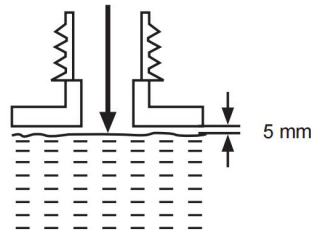

Fig. 17
- 3) Do not overfill and leave approx. 5 mm of space to the lower edge to allow the lubricant to expand (Fig. 17).